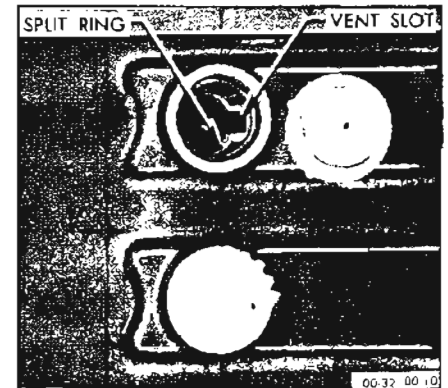

Figure 00-10—Battery Filler Well
**NOTE:** Do not overfill. Clean top of battery; if wet with acid, neutralize with soda and wash clean. See Figure 00-10.